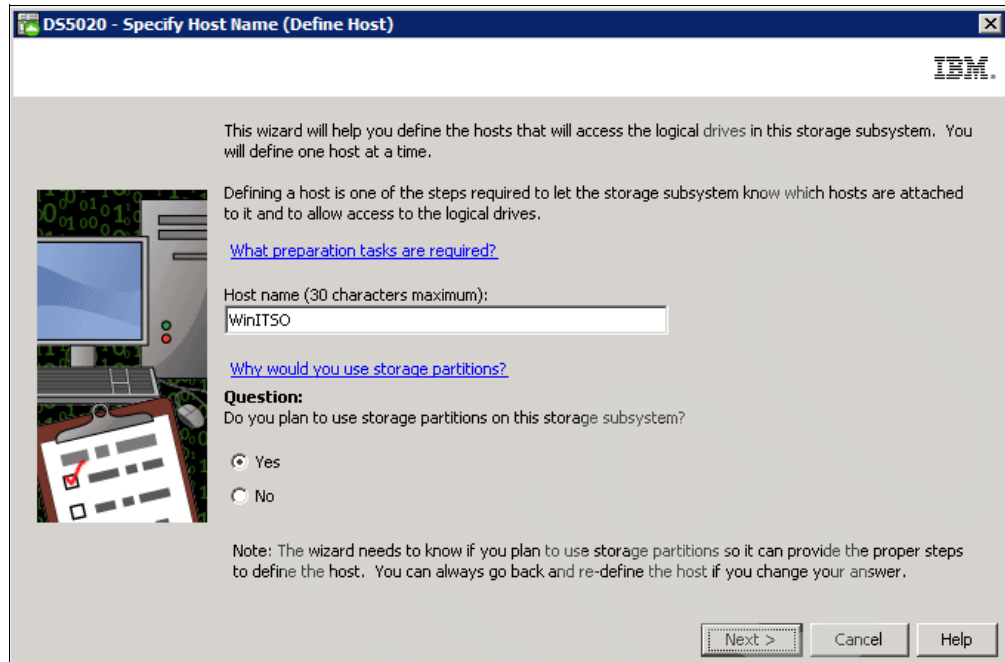

Figure 4-69 Define Host wizard
- The first window of the wizard is an introduction (Figure 4-69). You are asked to assign a name to the host being defined, and whether you plan to use storage partitioning.